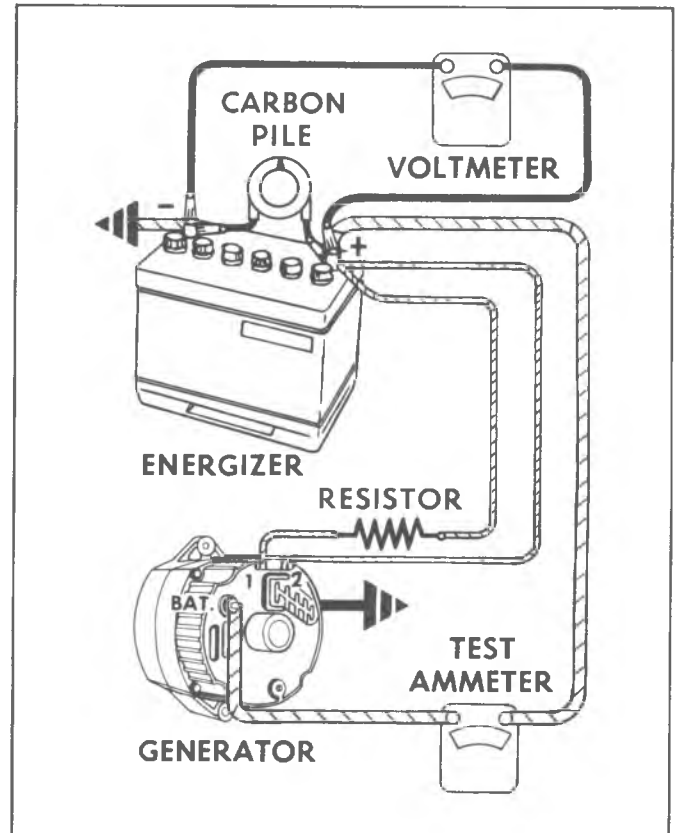

Fig. 9C—Generator Output Test
1. Make connections as shown in Figure 9C, except leave the carbon pile disconnected. Use a fully charged Energizer or battery, and a 10 ohm resistor rated at six watts or more between the generator No. 1 terminal and the Energizer.